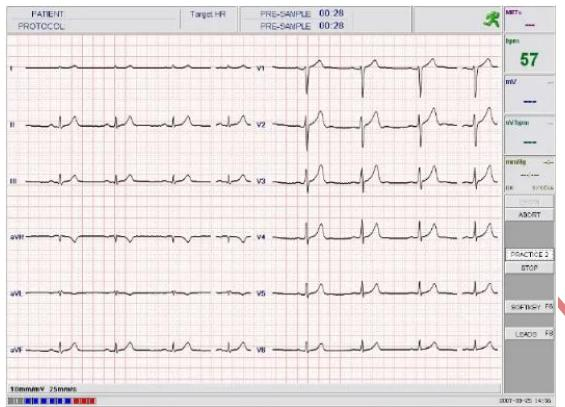

Fig.5-2 Pre-Sample
- New exam: click this button to enter a new examination interface (as Fig.5-2).
First enter Pre-Sample state, as Fig. 5-2.
1. When enter the interface shown in Fig.5-2, prompt of connecting to the Wi-Fi device will show, if can not connect, will show prompt box, please connect again; if connected, then enter the pre-sampling state.
2. The battery icon shows on the right of the Metabolize quantity in parameter display area, as Fig.5-2.
3. When enter the interface as Fig 5-2, prompt of replacing the battery will show, if the battery isn't enough to sample a whole case.